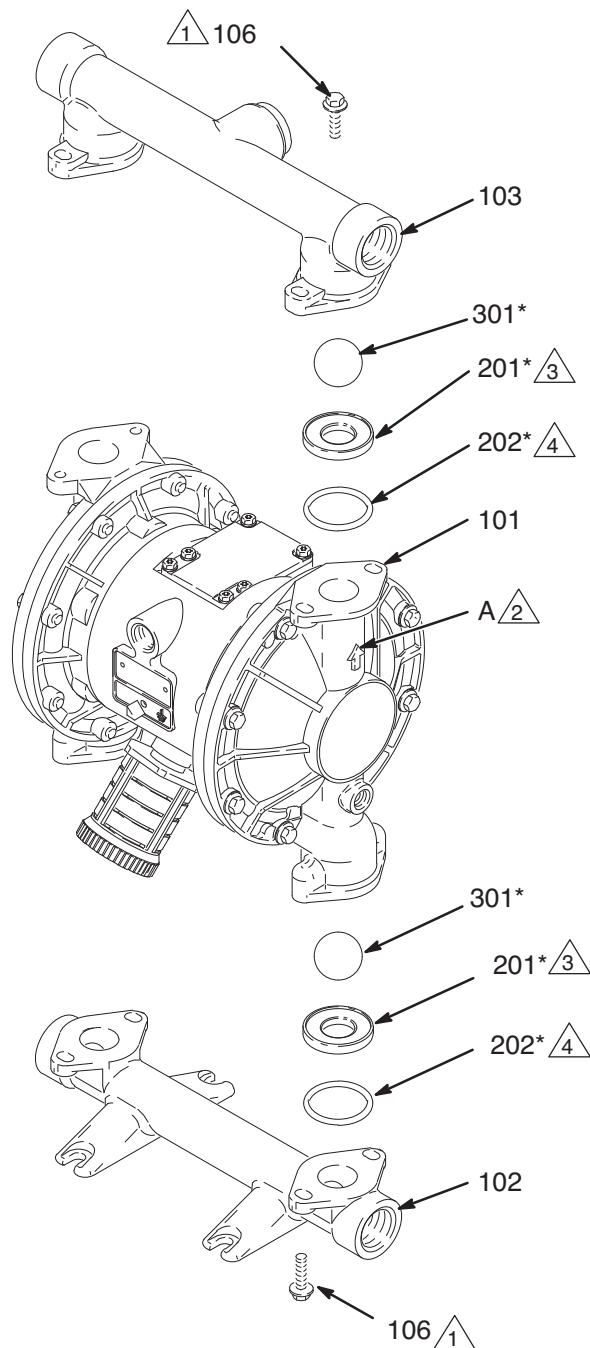

Fig. 12
3. Using a 10 mm socket wrench, remove the four bolts (106) holding the outlet manifold (103) to the fluid covers (101). See Fig. 12.
4. Remove the o-rings (202, *not used on some models*), seats (201), and balls (301) from the manifold (103).
5. Turn the pump over and remove the inlet manifold (102). Remove the o-rings (202, *not used on some models*), seats (201), and balls (301) from the fluid covers (101).
2. Reassemble in the reverse order, following all notes in Fig. 12. Be sure the ball checks and manifolds are assembled **exactly** as shown. The arrows (A) on the fluid covers (101) must point toward the outlet manifold (103).
- 2  Arrow (A) must point toward outlet manifold (103).
- 3  Beveled seating surface must face the ball (301).